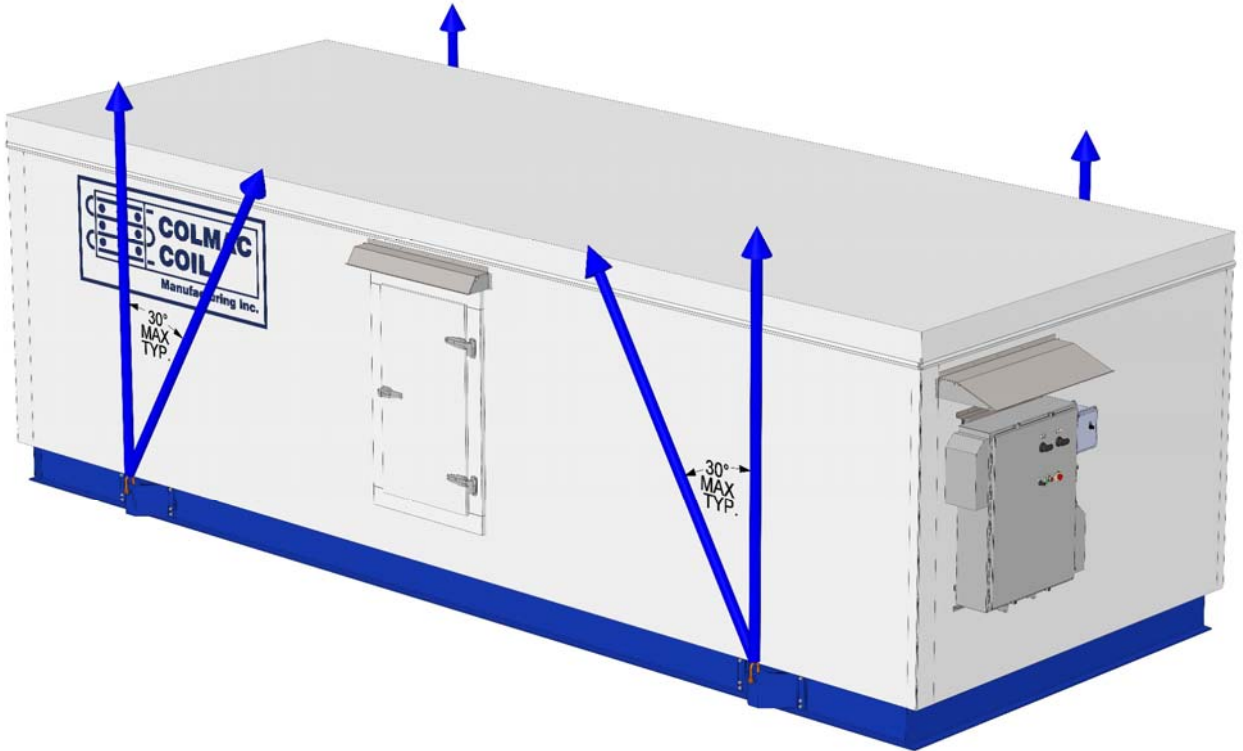

Figure 2.
2.2.8. Triangulated rigging systems can be utilized on pairs of lifting lugs on the same side of the unit but must be limited to a maximum of 30 degrees from vertical. See Figure 2. below.